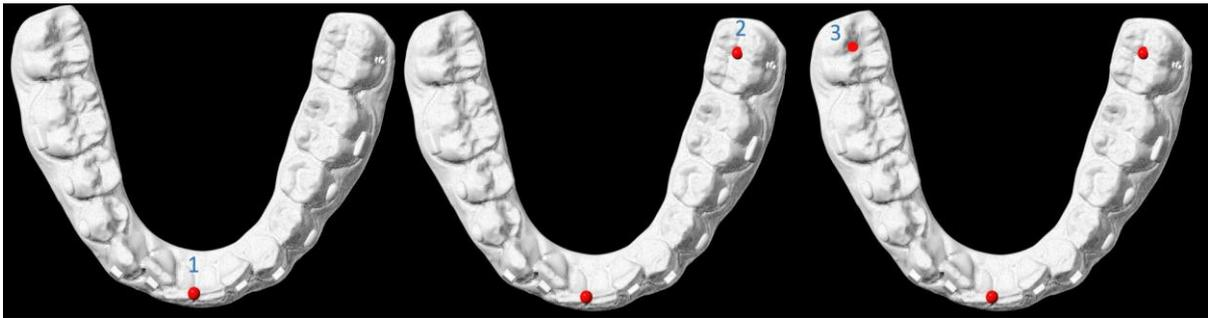

Figure 5: Points to select for mesh orientation
- First, you have to add a point between the front teeth, marked by 1 in **Figure 5**, preferably on the top of one of the teeth.
- Then you need to pick a point on one of the back teeth, 2 in **Figure 5**.
- Finally you have to pick the equivalent of the last point on the other side of the dental arch (i.e. its mirror image), which is represented with a 3 in **Figure 5**. After the third point is selected the mesh will be automatically oriented.